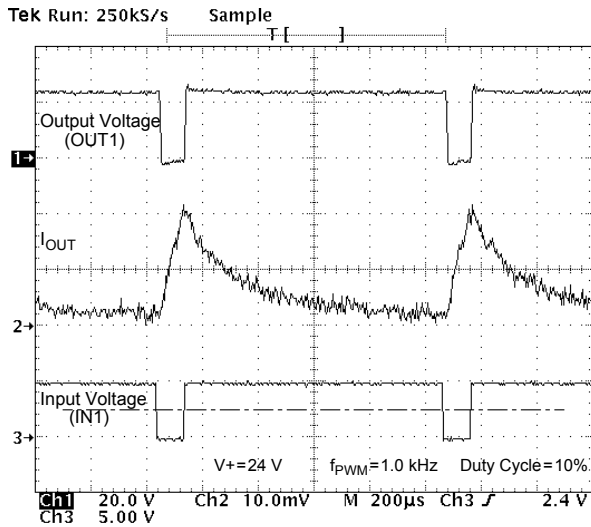

Figure 10. Output Voltage and Current vs. Input Voltage at V+ = 24 V, PMW Frequency of 1.0 kHz, and Duty Cycle of 10%
20. The outputs can be PWM controlled from an external source. This is typically done by holding one input high while applying a PWM pulse train to the other input. The maximum PWM frequency obtainable is a compromise between switching losses and switching frequency. Refer to Typical Switching Waveforms, Figures 10 through 17, pp. 10–11.